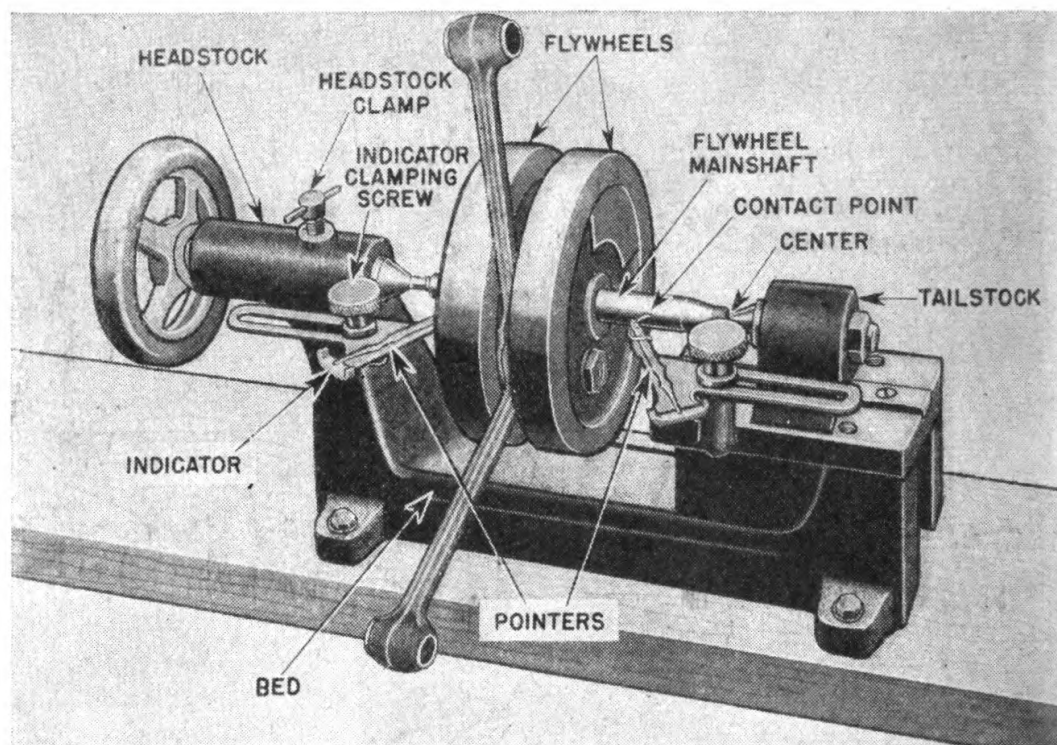

FIGURE 61.—Flywheel truing device.
*a. Truing the flywheels.*—After assembly, the flywheels must run as true as if they were one piece. Check them with a truing device as pictured in figure 61. Place the flywheel assembly, with rods and bearings, between the centers of the device, with the pointers bearing on the shafts. As the flywheels are revolved, the indicators show in thousandths of an inch whether the shafts are running true or “out of true.” Striking the wheels lightly with a babbitt hammer will shift the shafts into alinement.